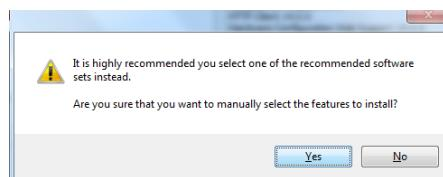

Figure 25: NI MAX - NI Veristand Engine installation 1
3. Ignore the warning, See Figure 25